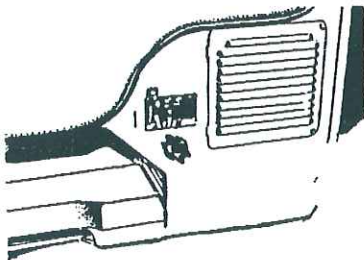

Figure A8
1. Remove screw securing terminal block cover to rear panel and remove cover (Figure A8).
2. Remove screw securing terminal block cover to rear panel and remove cover (Figure A8).